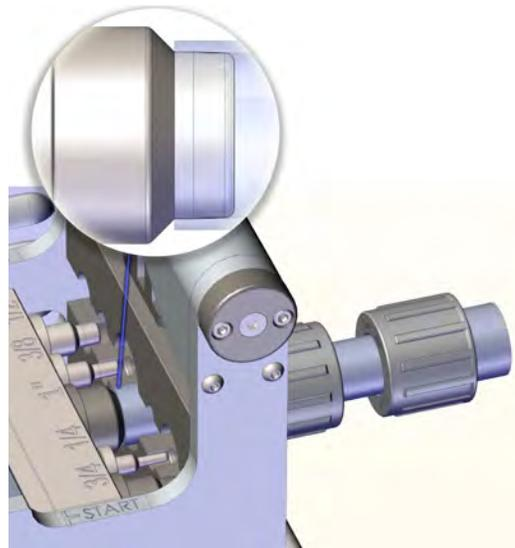

Fig. 7. Insert tube to the beginning of the chamfer
5. The tubing must be quickly placed on the appropriate flare mandrel upon removal as the tubing will begin to cool. Ref. Fig. 7.
- Slide the heated tubing onto the appropriate size of flaring mandrel to the beginning of the chamfer. See Fig. 7. Do not push tubing onto flaring mandrel beyond the beginning of the chamfer.